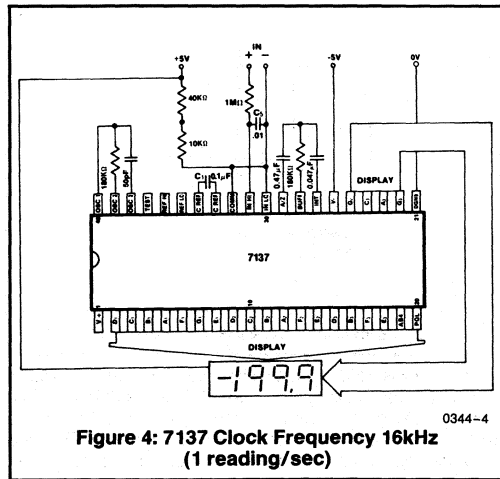

Figure 4: 7137 Clock Frequency 16kHz (1 reading/sec)
**NOTES:** 3. Unless otherwise noted, specifications apply at TA = 25°C, fclock = 16kHz and are tested in the circuit of Figure 4.